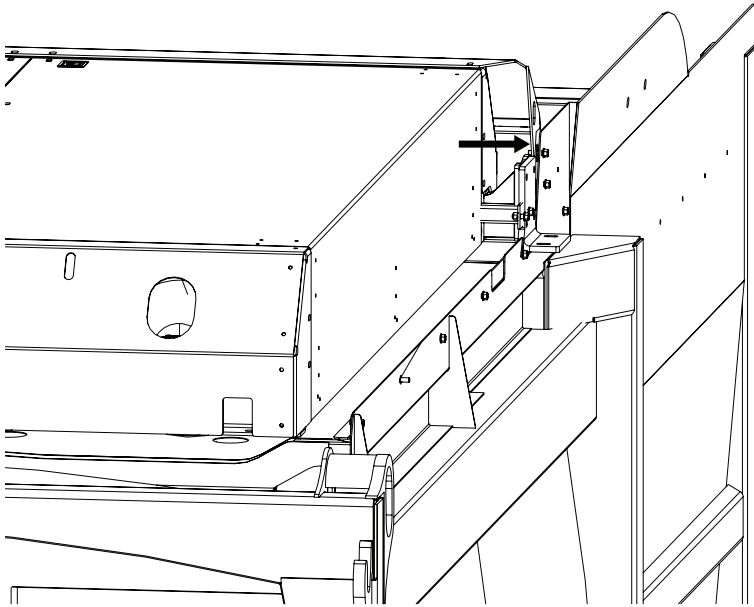

Figure 5
12. Use a machinist's marker to mark the new deflector bolt holes (marking from the inside) (Figure 5 - one side shown for illustrative purposes only). Do this on both inside sides.